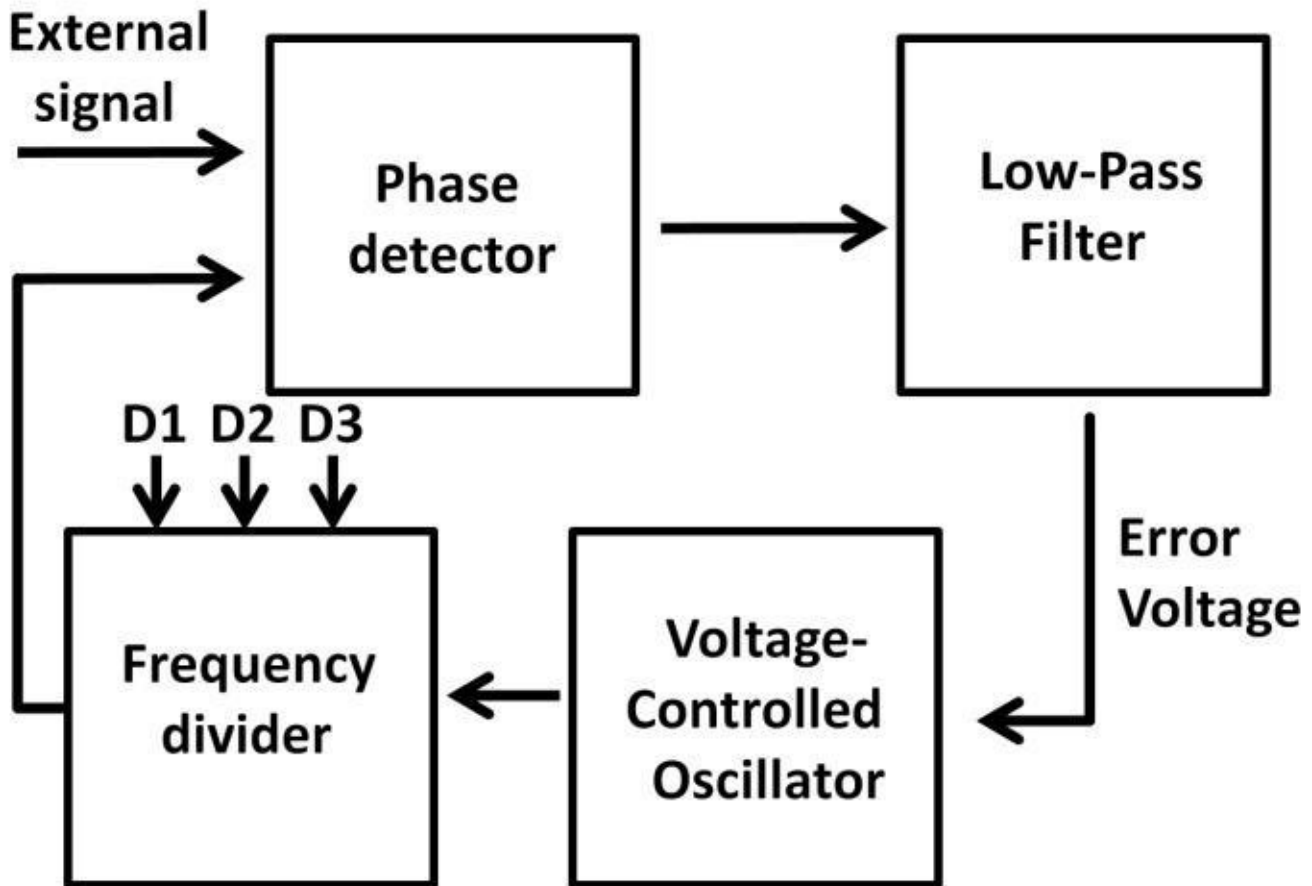
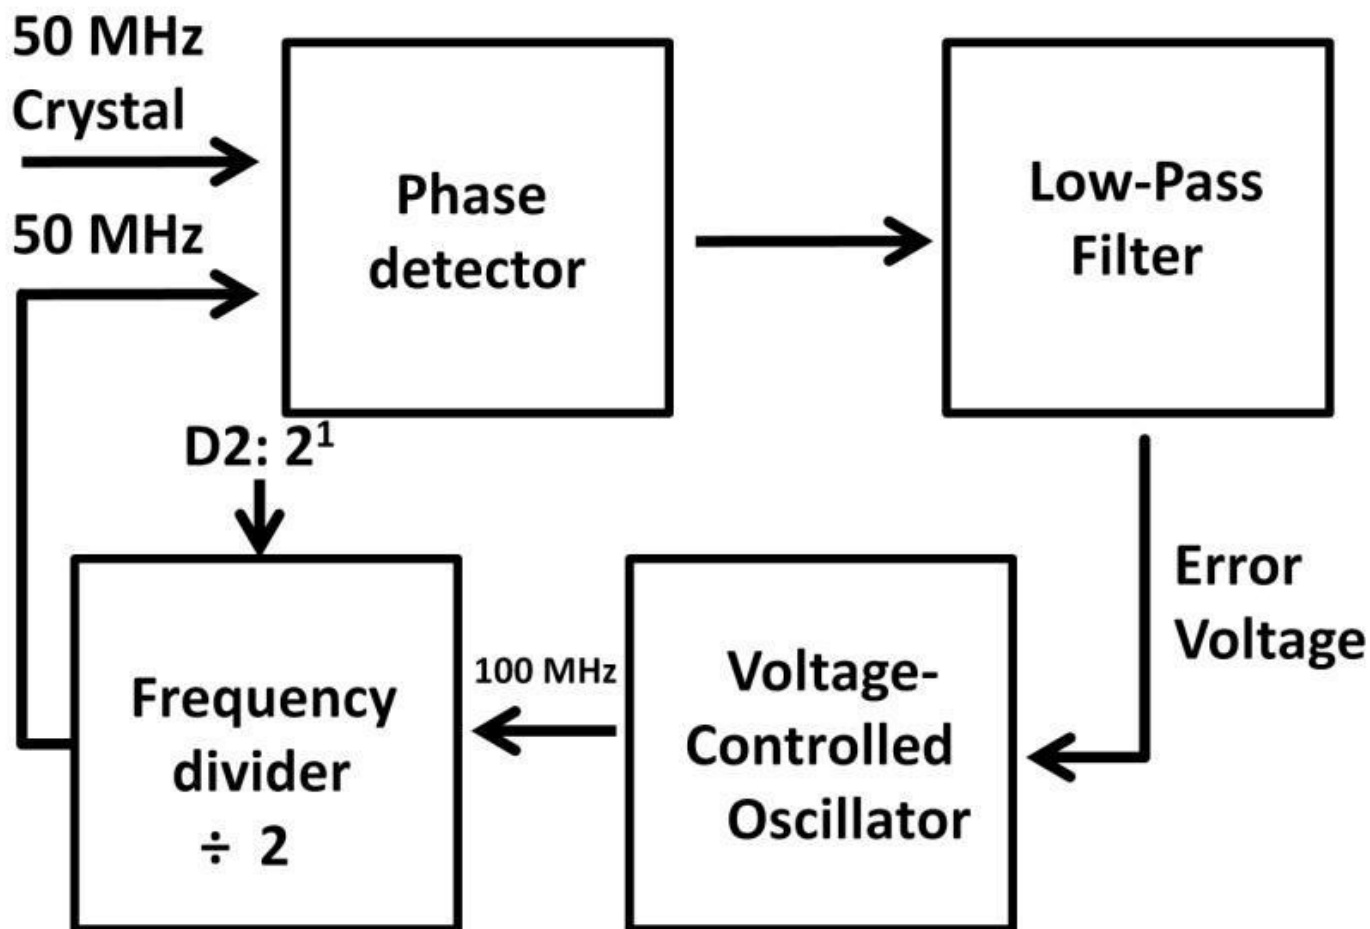

Figure 6.11: PLL implementation
Figure 6.12: PLL frequency multiplier
to the output of the internal voltage controlled oscillator (VCO). PLL is a negative feedback system. Its task is to self-correct phase difference between the two phase detector inputs until the difference is zero. When this happens, the internal signal is “phase locked” with the external signal. At first glance, PLL does not look that practical. One might say “I could use the external signal as my clock source directly. Why do I need a PLL?” From a practical point of view, that is a correct statement and legitimate question. To answer the question, you should understand that a practical PLL is implemented with a binary divider to create signals at multiple frequencies. Figure 6.11 shows the actual implementation.
D1, D2, and D3 are divider bits that can be controlled by a microcontroller. We will discuss microcontrollers shortly in chapter 7, Microcontrollers. If we assume the divider bits D1, D2, and D3 are 0, 1, and 2, the frequency divider is then able to divide incoming frequency by one, two, and four times shown in table 6-3. When the external signal arrives at the phase detector input, the VCO is running at its designed frequency. The phase detector output generates a digital pulse that represents the difference between these two frequencies in terms of phase shift. The low-pass filter converts this difference into a DC voltage called error voltage (see figure 6.11). This error voltage adjusts the VCO frequency until both phase detector inputs are the same, i.e., phase locked. At this point, the output of the phase detector is a DC voltage. It passes through the low-pass filter keeping the VCO running at the same frequency as the external signal. At any point in time, if the external signal runs differently than the locked VCO signal, the phase detector would again capture the phase difference generating a new error voltage. This voltage then skews (changes) the VCO to phase-lock the input signal again. The error voltage modulates according to the input signal variations. This topology applies the same feedback self-correction mechanism similar to what we discussed in op-amps and low drop-out regulators. Let's apply what we know to a practical scenario. Suppose the external signal comes from a 50 MHz crystal oscillator (see figure 6.12 on the next page). The divider bit, D2, is selected. The VCO output will have to be twice (100 MHz) as fast as the crystal before dividing by two to 50 MHz when the signal is phase locked. This in turn makes the PLL a frequency multiplier from the crystal. The 100 MHz signal from the VCO output can then be used to clock other circuits within the system. By using other divider bits (D1, D2, D3), multiple signals at different frequencies can be synthesized. PLL in this application becomes a frequency synthesizer, which is widely adopted in
- 4) According to figure 6.11, PLL, if the external crystal frequency is 20 MHz, and control bit D3 is high, what is the output frequency of the VCO?